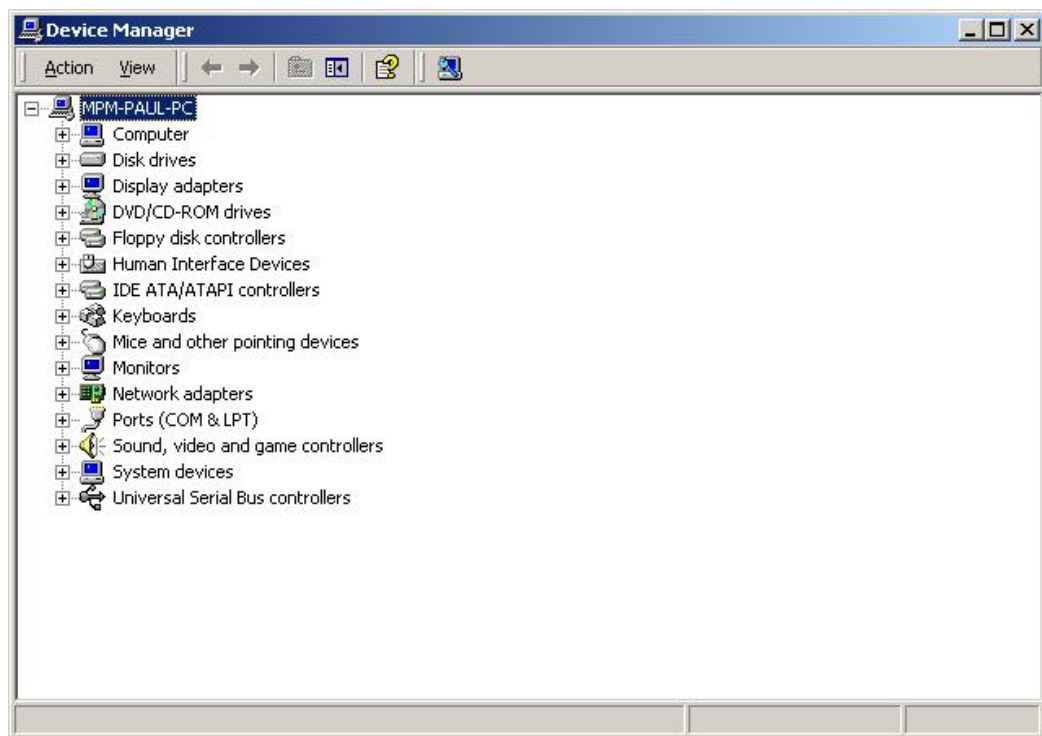

Figure 6-16: Device Manager List
Step 4: A list of system hardware devices appears (Figure 6-16).